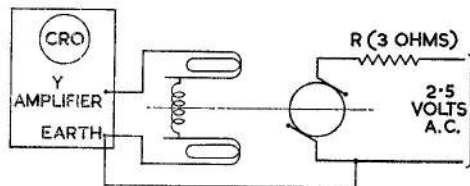

Fig. 14. Circuit diagram for determining the geometric neutral axis
- (d) Connect up the circuit as illustrated in Fig. 14, with the motor field leads isolated from the brushes but connected to the oscilloscope, and with the resisted input voltage across the slave brushes as shown in the diagram.